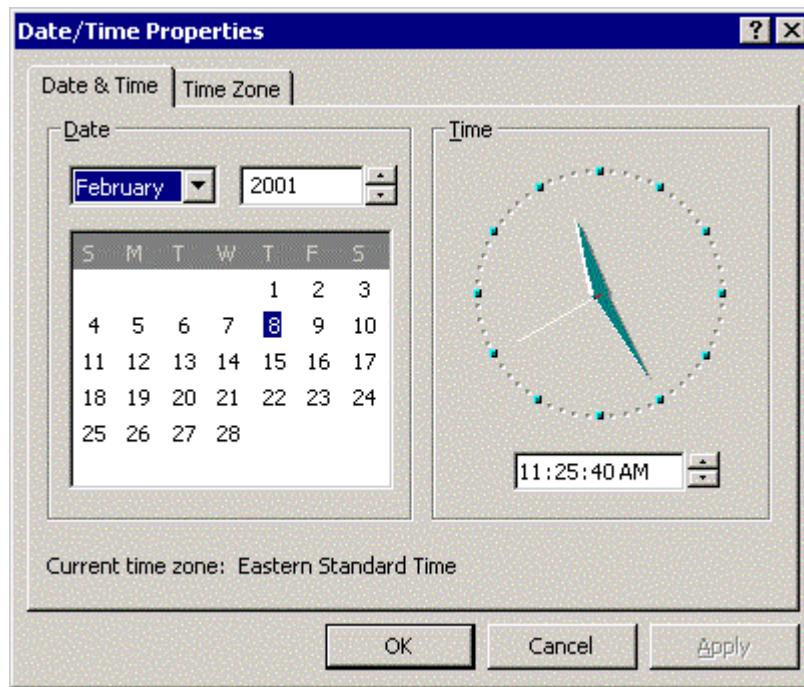

Figure 2-3 *Date/Time Properties Dialog Box*
- 7 Check that the time and date is properly indicated on the report. If the time/date are not correct, click on the time on the bottom right corner to present the *Date/Time Properties* dialog box (Figure 2-3) and edit these parameters as appropriate.